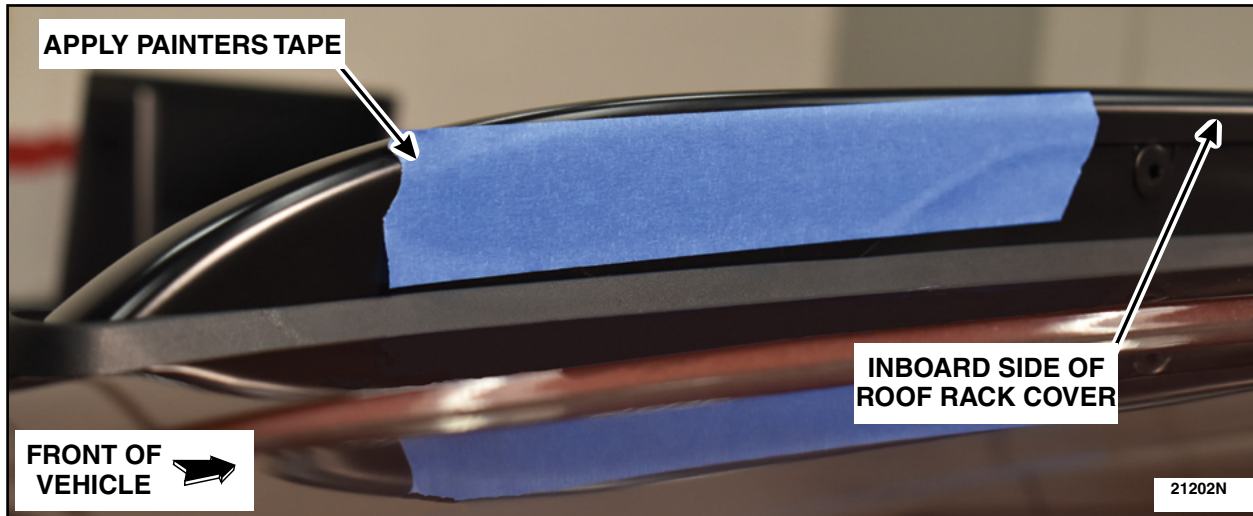

FIGURE 12
1. At the rear of the vehicle, apply painters tape to the inboard end of the roof rail cover. See Figure 12.